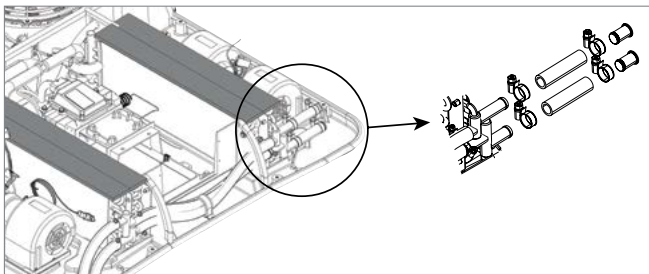

Fig. 36: Heater end caps
- ▶ Mount the hoses and end-caps with hose clamps Fig. 36